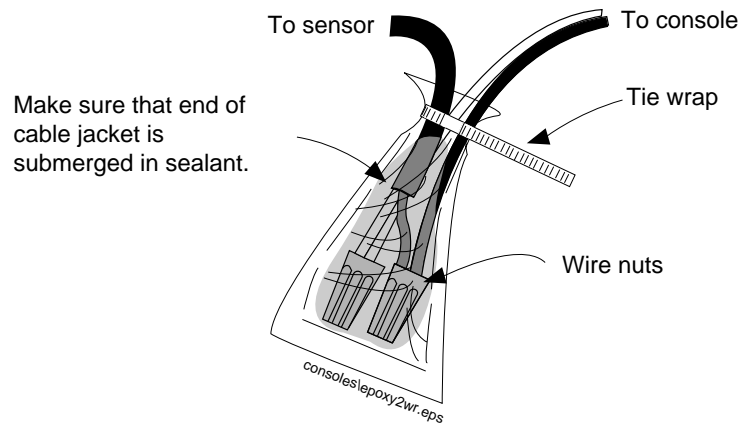

Figure 3. Epoxy Sealant for Two-Wire Connections
1. Seal wire nuts with epoxy sealant using one bag for two wire nut connections (see Figure 3).